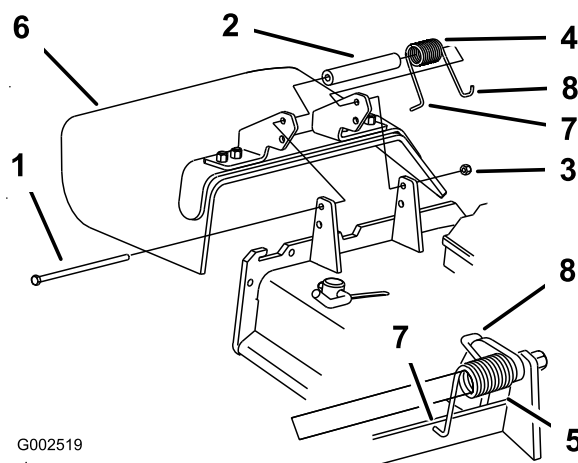

Figure 77
1. Remove the locknut, bolt, spring and spacer holding the deflector to the pivot brackets (Figure 77).
Note: Make sure the L end of the spring is installed behind the deck edge before installing the bolt as shown in Figure 77
5. Place the J hook end of the spring around the grass deflector (Figure 77).